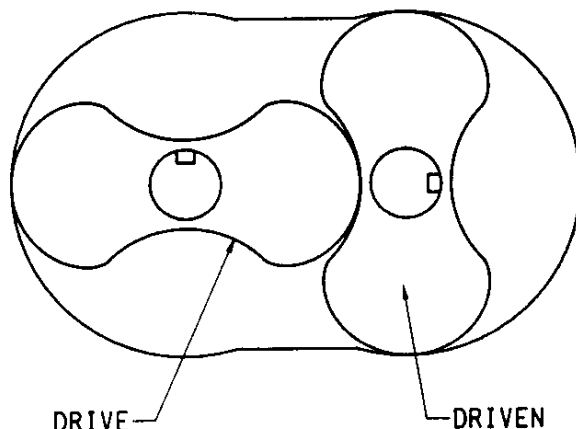

Figure 7.
2. Stand rotors on press with drive rotor [1] on the left, making sure keyways are properly positioned as shown in Figure 7. You may use the drive end plate as a temporary fixture to support the rotor lobes while pressing on the bearings and gears.